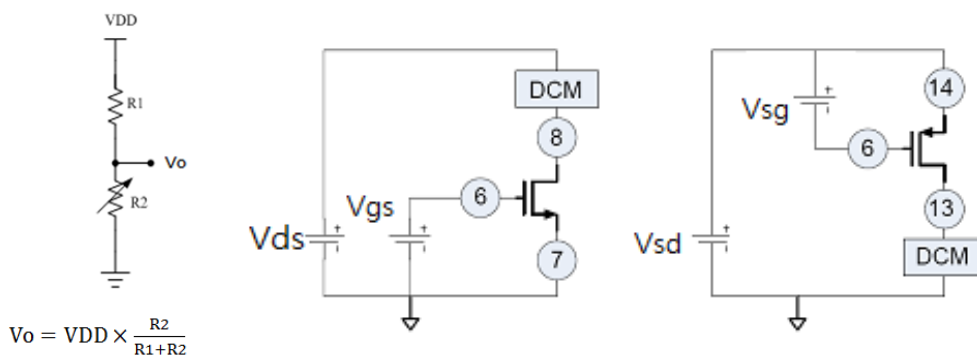

Fig. 2 Test configurations for N-MOSFET (center) and P-MOSFET (right), respectively
1. Measure the I_{DS} - V_{DS} curves of a N-MOSFET (Fig. 2, center) under different V_{GS} (V_{DS} : 0 V to 5 V, 0.5 V/step; V_{GS} : 2 to 5 V, 1 V/step). (你可由 power supply 所提供的固定 5V 經由電阻分壓(Fig. 2, left)產生 V_{GS} 所需的偏壓)
3. Repeat steps (1) and (2) for a P-MOSFET (Fig. 2, right). Note: PMOS 的實驗我建議與鄰座同學一起合作，用兩台電源供應器來產生 V_{SG} 及 V_{SD} .